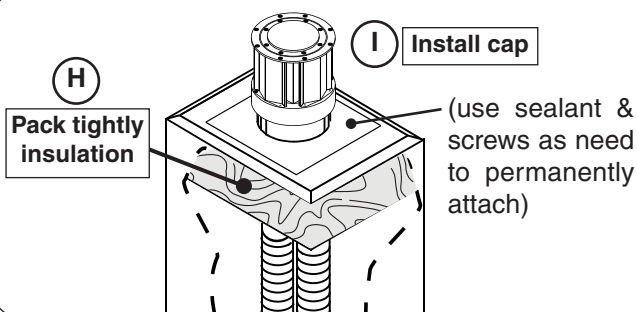

Fig. 25-4 Insulate chimney top & install cap
8. Pack tightly insulation (not included) around the pipes inside the top of the chimney area (prevents moisture and wind from entering chimney). See Fig. 25-4, H.
9. Place the termination cap assembly in position atop the chimney. Permanently attach using Mill-PAC or sealant and screws (as appropriate for setup). See Fig. 25-4, I.